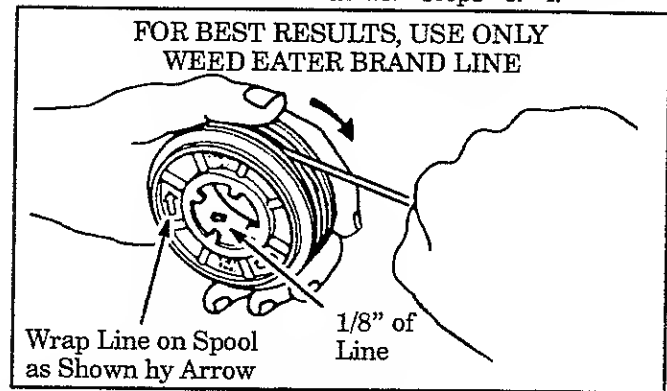

Figure 22
- Insert 1/16" to 1/8" of the end of the line through the hole in the spool. Figure 22. Allow no more than 1/8" line to extend inside the spool.
- Wrap the line onto the spool firmly and evenly in the direction shown by the arrow on the spool. Figure 22.